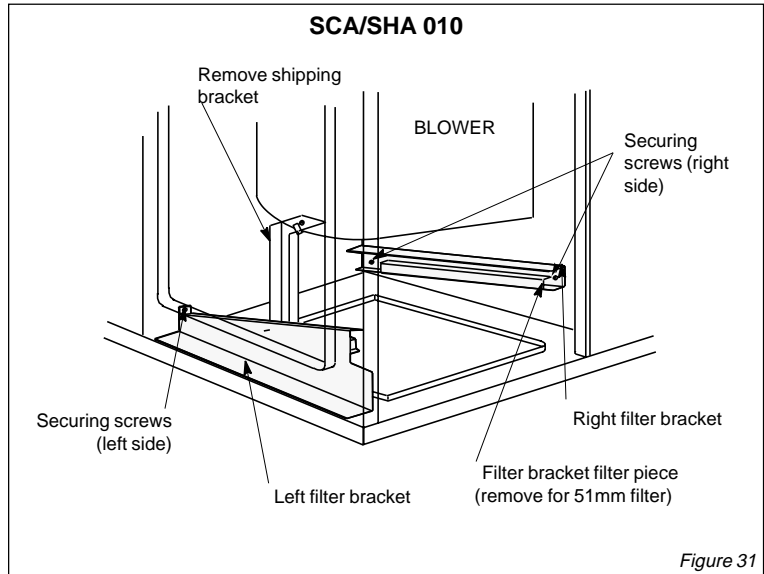

Figure 31
2. **SHA010** - See figure 31.